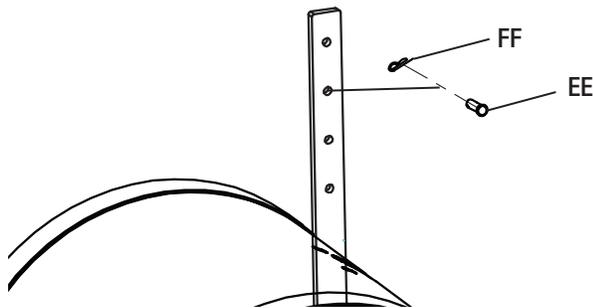

Figure 1-14
- Adjust the depth regulator lever to desired tilling depth. Insert the clevis (EE) and cotter pin (FF) to secure depth regulator to desired depth. See Figure 1-14.